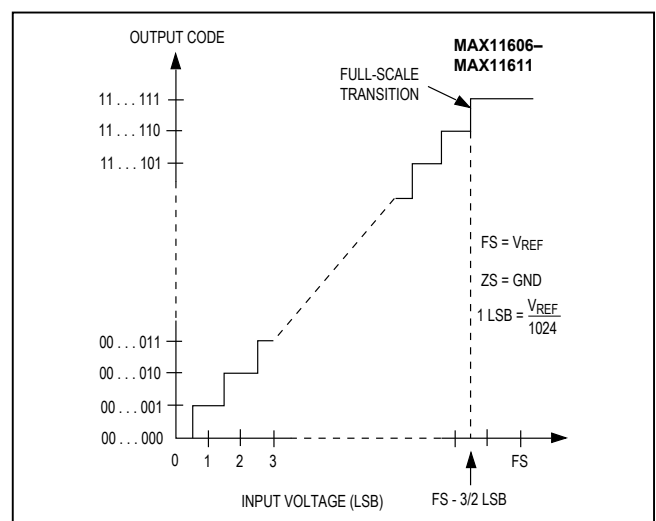
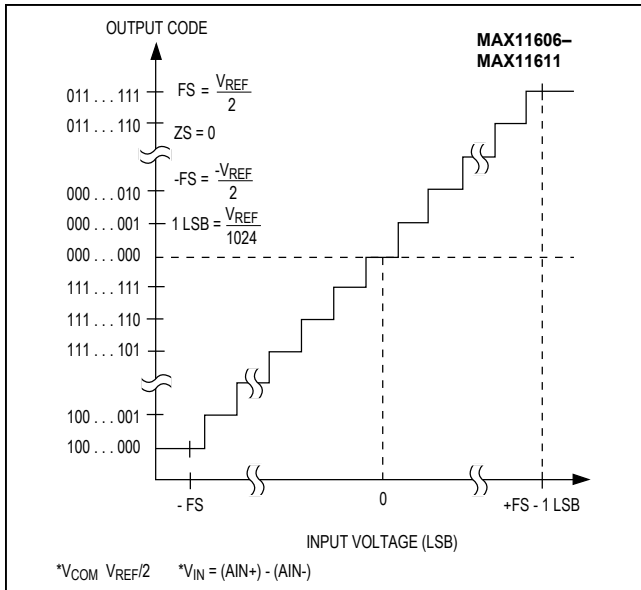

Figure 12. Unipolar Transfer Function
Figure 13. Bipolar Transfer Function
Output data coding for the MAX11606–MAX11611 is binary in unipolar mode and two’s complement in bipolar mode with $1\text{ LSB} = (V_{REF}/2N)$ where N is the number of bits (10). Code transitions occur halfway between successive-integer LSB values. Figure 12 and Figure 13 show the input/output (I/O) transfer functions for unipolar and bipolar operations, respectively.